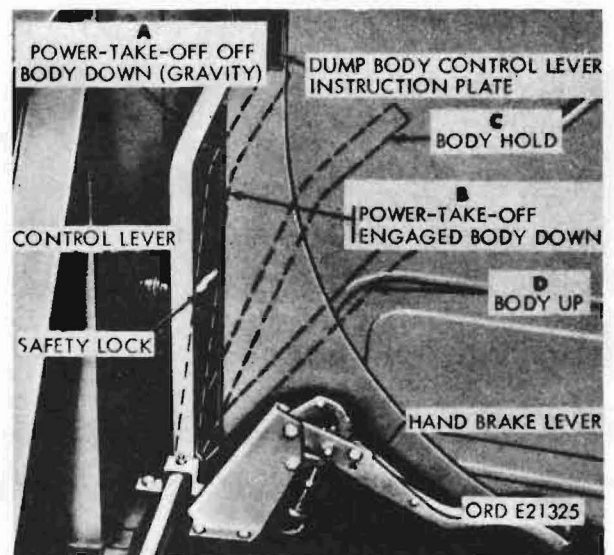

Figure 56. Hydraulic hoist driver's control lever
- (1) Hydraulic hoist driver's control lever (fig. 56). The hydraulic hoist driver's control lever, located to the left of the driver's seat, is moved forward and down to control the position of the dump body.